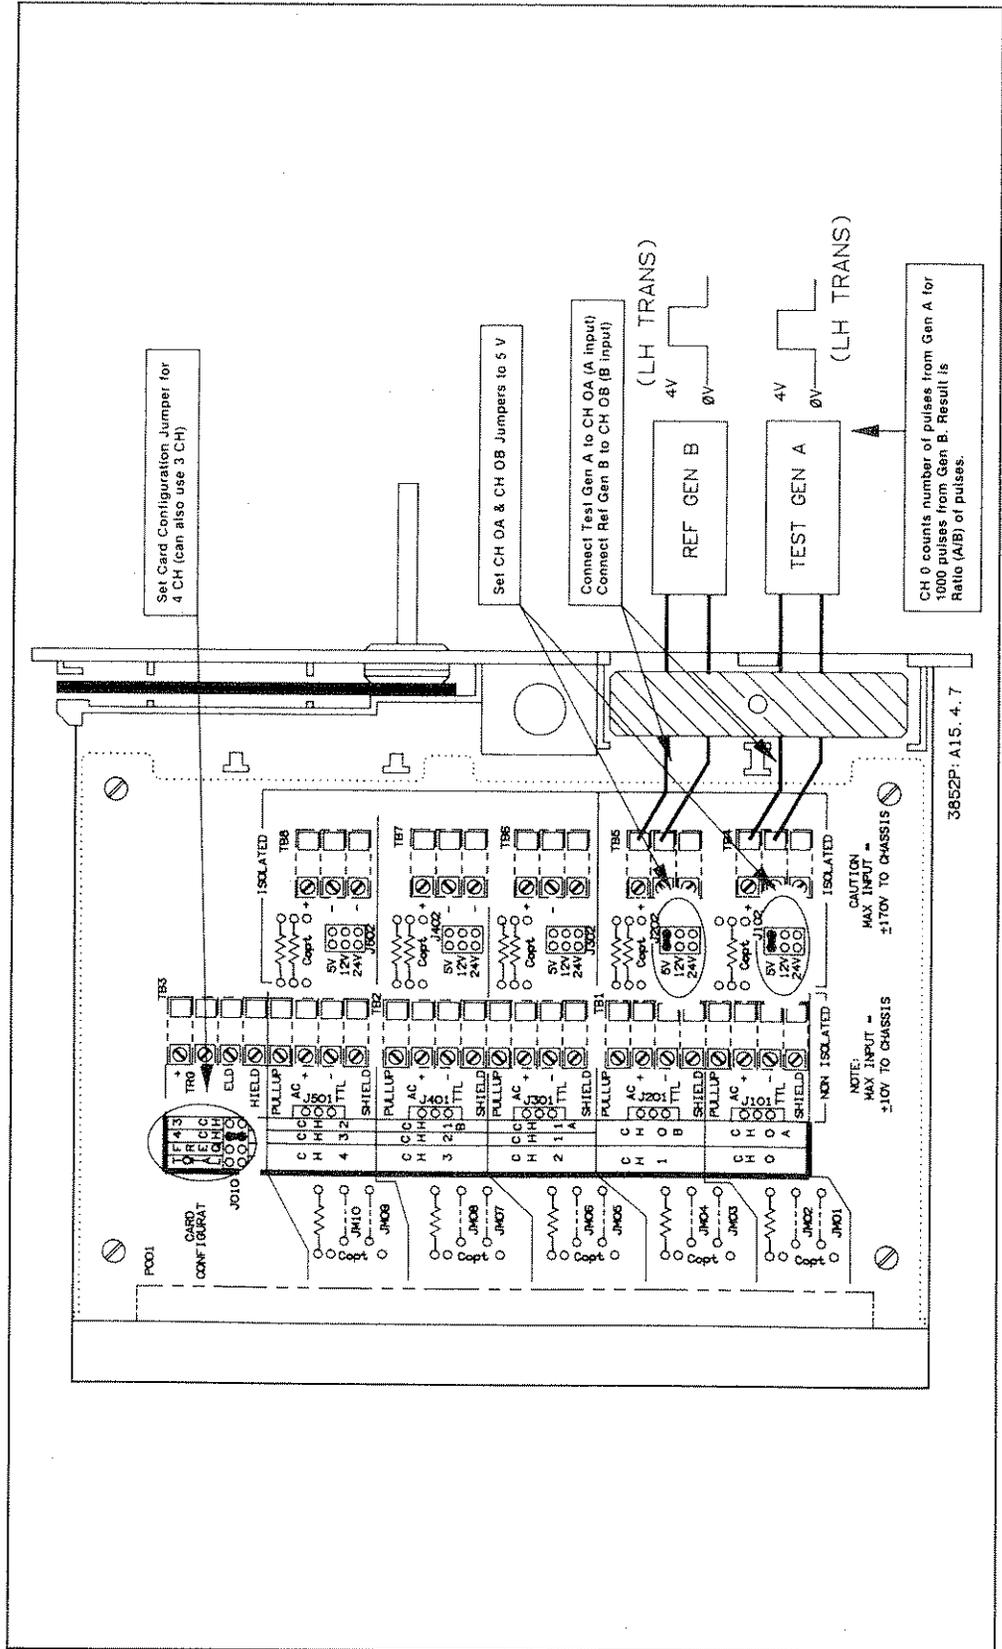

Figure 4-7. Example: Measure Ratio
Example: This example program measures the ratio of the number of pulses output from a test pulse generator (A) to 1000 pulses output from a reference pulse generator (B). When the measurement is complete, a MC interrupt is generated and the interrupt time and ratio (A/B) are returned. See Figure 4-7 for typical connections and counter configuration for channel 500 of a counter in slot 5 of the mainframe.